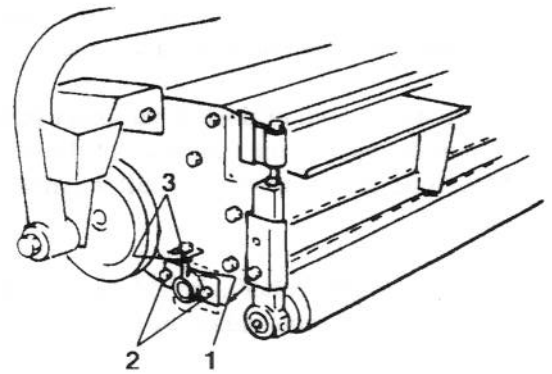

Figure 42
4. Loosen (2) carriage bolts on the bedbar adjuster (Fig. 42).